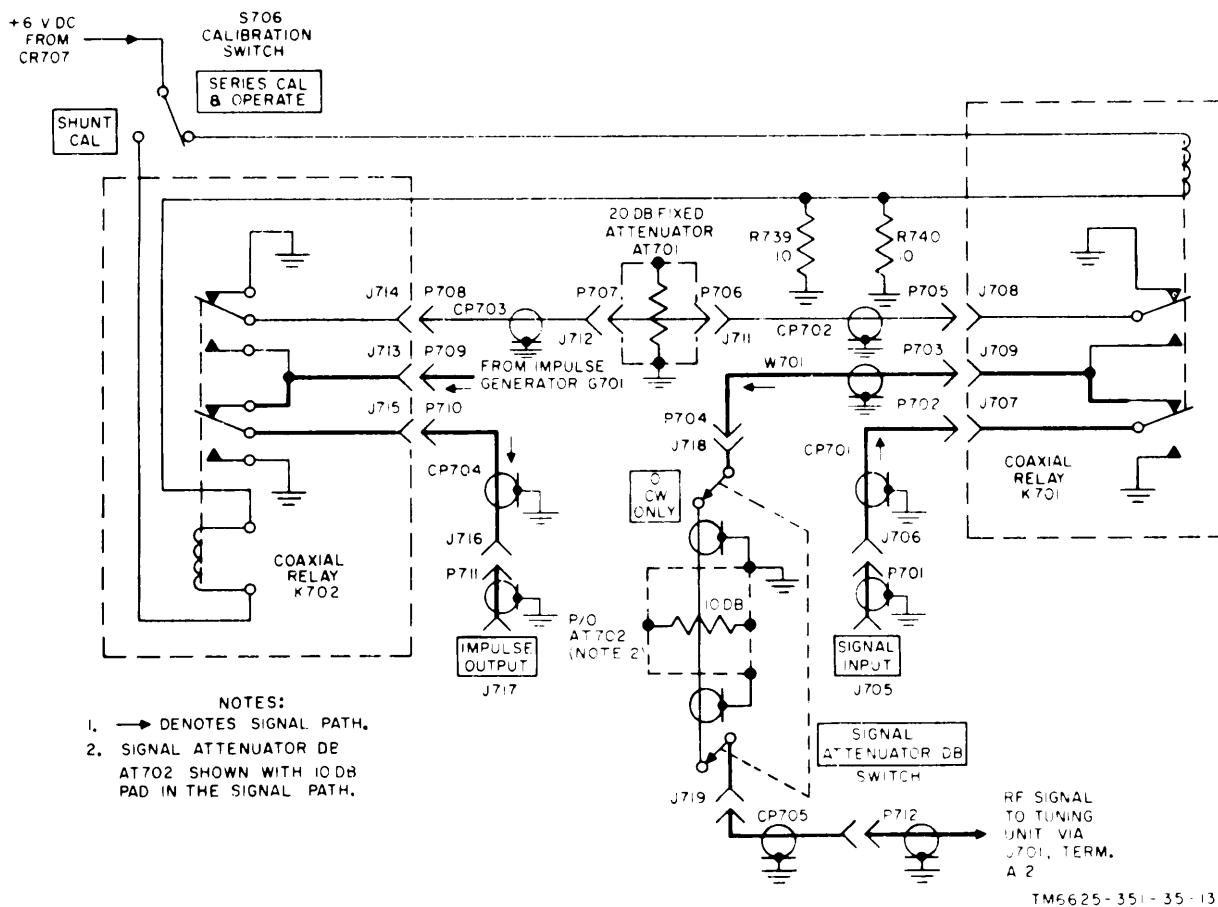

Figure 14. Coaxial relays and attenuators, simplified schematic diagram.
- (2) With the contact at its normally closed (NC) position, the coaxial delay line is discharged to ground through resistor R737. The transient discharge of the dc voltage on the delay line produces a broadband signal whose frequency spectrum is flat, within one-half db, from 150 kc to 1,000 mc. This spectrum corresponds with the frequency coverage of the test set and creates a usable source of calibrating voltage which requires no tuning of circuit elements.
- (3) The transient discharge of the coaxial delay line is decoupled through output connector P709 to input jack J713 on coaxial relay K702 (fig. 14).
(fig. 14)
Figure 14 shows that a network of coaxial relays and attenuators are connected to the rf signal input and to the impulse generator output signal paths. The direction of signal flow depends on the setting of calibration switch S706. The following subparagraphs analyze the circuit with S706 in the SERIES CAL & OPERATE position (a below); then with S706 in the SHUNT CAL position (b below).
- (1) *Rf signal path.* The rf signal is applied to SIGNAL INPUT jack J705 and is conducted through adapter CP701 to input jack J707 on coaxial relay K701. Setting calibration switch S706 in the SERIES CAL & OPERATE position creates a path of continuity for the +6-volt output of the power supply through the coil of relay K701 and current-limiting resistors R739-R740 to chassis ground. With relay K701 energized, the movable arm on the lower set of contacts connects the incoming rf signal applied at jack J707 on relay K701 to jack J709. The movable arm on the upper set of contacts grounds the output end of a 20-db fixed attenuator AT701, effectively removing it from the circuit. The rf signal available at output jack J709 on the coaxial relay is applied through plug P703, cable assembly W701, and plug P704 to coaxial jack J718 on the input side of the turret-type rotary switch on signal attenuator AT702. When the SIGNAL ATTENUATOR db control is rotated to the 0 CW ONLY position (fig. 14), a 10-db resistive T-pad attenuator network of coaxial structure is inserted in the signal path. The attenuated rf signal, available at the output end of the coaxial structure, is picked up by the output side of the turret-type rotary switch and is coupled
- (2) *Impulse generator signal path.* The output of impulse generator G701 is coupled through plug P709 and mating jack J713 on coaxial relay K702. The coil of relay K702 is deenergized when calibration switch S706 is set to the position shown in figure 14. Therefore, the movable arm on the lower set of contacts provides a path of continuity through adapter CP704 to front-panel IMPULSE OUTPUT jack J717. The movable arm on the upper set of contacts grounds the input end of 20-db fixed attenuator AT701, effectively removing it from the circuit. When the discone, loop, or vertical antenna is connected to the main unit, one of the pair of rf cables in Electrical Cable Assembly Set MX-3410/URM-85 mates with the output of the impulse generator at IMPULSE OUTPUT jack J717. Each of these three antennas, with the use of the series method of calibration (fig. 3), houses a self-contained 20-db attenuator.
- (a) The movable arm on the upper set of contacts of K701 (now deenergized) couples the attenuated impulse generator calibrating voltage from jack J708 through jack J709 and cable assembly W701 to signal attenuator AT702. The signal path from AT702 is identical with that described in paragraph a(1) above.
- (b) Figure 14 shows that the movable arm on the lower set of contacts of relay K702 (now energized) applies chassis ground potential through adapter CP704 to IMPULSE OUTPUT jack J717. This circuit condition insures that the